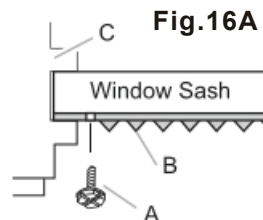
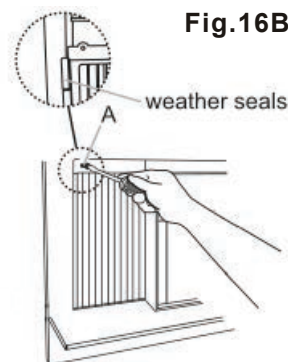

Fig. 16A
Fig. 16B
2. Use 1/8" drill bit to drill a starter hole through the hole in the top leg of each window filler panel and into the window sash. (Fig. 16A and Fig. 16B.) Connect with one 3/4" (or 1/2") long hex head screw.